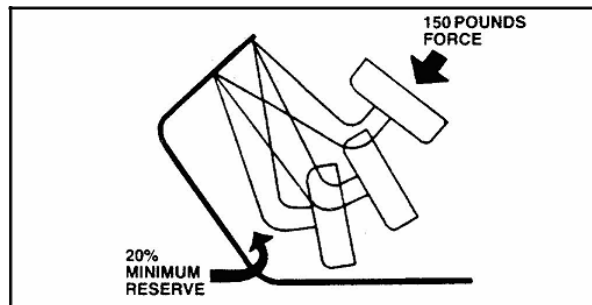

Figure P-5
- 1. Test pedal reserve. (See Figure P-5)